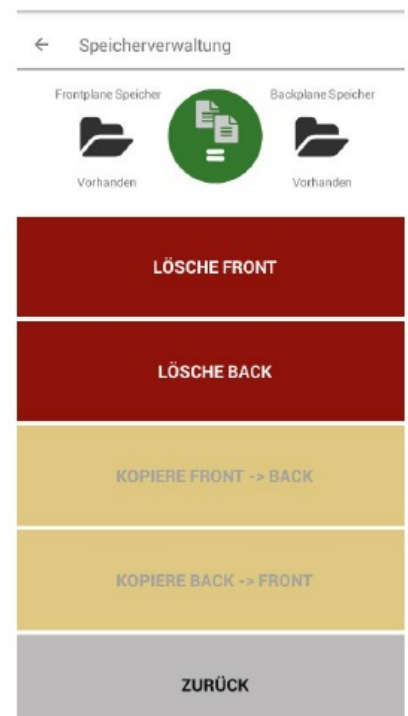

Fig. 13
3. Select “Zurück” (Back) to return to the configuration menu (Fig. 13) and click the arrow on the top left corner to exit the configuration menu.